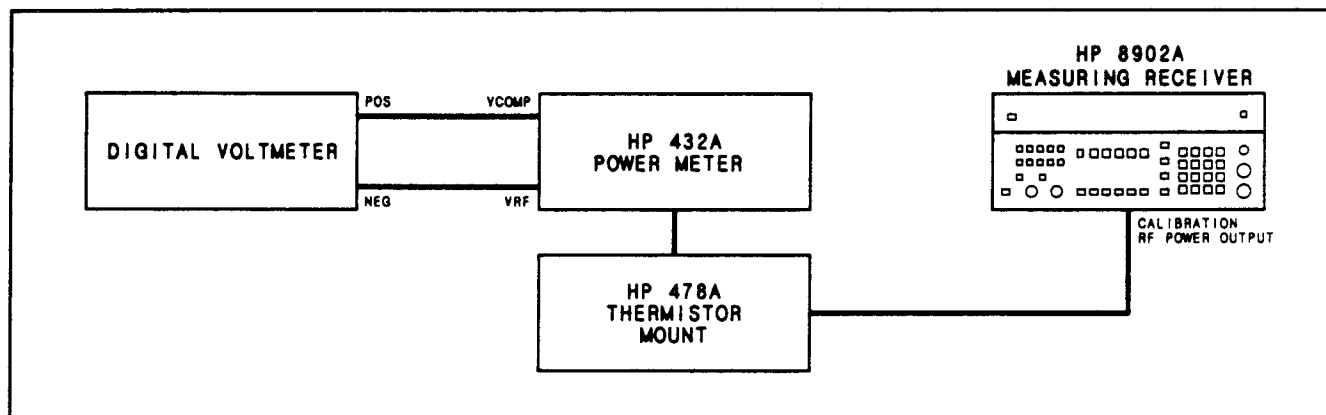

Figure 4-6. Power Reference Performance Test Setup
2. Connect the equipment as shown in Figure 4-6. The input of the digital voltmeter should be floating. The positive input of the voltmeter should be connected to the rear-panel VCOMP connector of the HP 432A Power Meter, the negative input to the VRF connector. Switch the equipment on and let it warm up for at least 30 minutes.